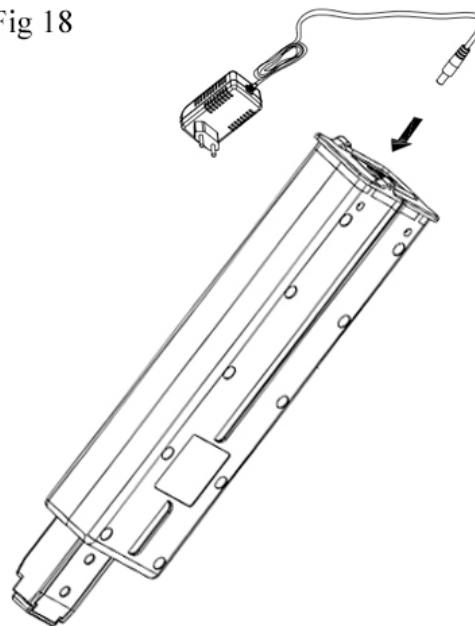

Fig 18
3. Plug the round connector on the charger's cord into the battery pack. (Fig 18)